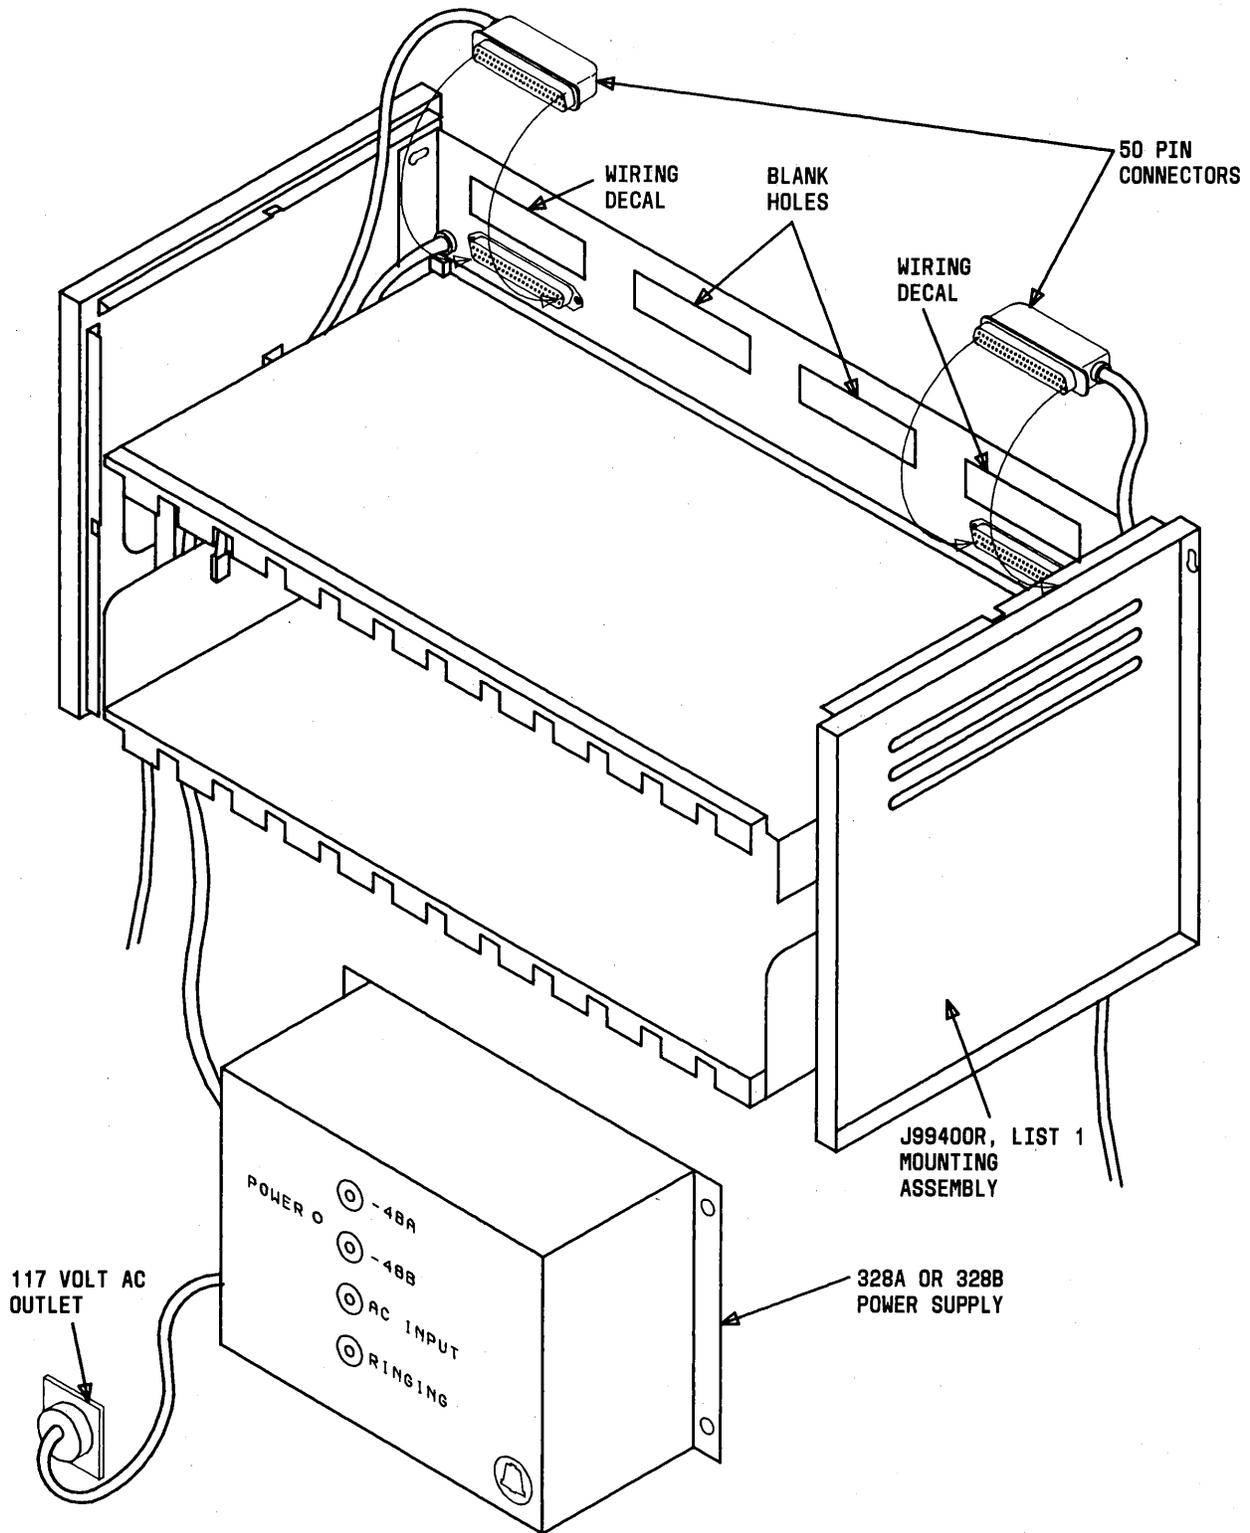

Fig. 1—J99400R Housing Assembly—Double-Module Arrangement for Six MFT Circuits
**2.01** The J99400R assembly consists of a double-module shelf arrangement which will accommodate up to six MFT circuits (12 plug-ins, alternating transmission units and signaling units). The J99400R assembly shown in Fig. 1 is available in combinations of the following list numbers:
**2.05** The 328A power supply which will accept commercial 117 volt ac input and will supply two -48 volt dc outputs (-48A and -48B). The 328A power supply has a 1.75 ampere circuit breaker on the 117 volt ac input and 1.75 ampere circuit breakers on each of the -48 volt dc outputs. The location of these circuit breakers and the POWER ON indicator is shown in Fig. 1. If a circuit breaker should trip, the center button will extend. The circuit breakers are reset by pushing this center button. If 20-Hz ringing is required, use of the 328B power supply/frequency generator or other external ringing source is recommended.
**2.07** The 328B power supply/frequency generator which will accept commercial 117 volt ac input and will supply two -48 volt dc outputs (-48A and -48B) and a 20-Hz ringing signal. The 328B power supply/frequency generator has a 1.75 ampere circuit breaker on the 117 volt ac input, a 1.75 ampere circuit breaker on each of the -48 volts dc outputs, and a 1.0 ampere circuit breaker on the 20-Hz ringing output. The location of these circuit breakers and the POWER ON indicator is shown in Fig. 1. If a circuit breaker should trip, the center button will extend. The circuit breakers are reset by pushing this center button.
**4.03** Cabling to the J99400R housing is routed up through the bottom of the housing to the 50-pin ribbon type connectors at the upper rear of the housing as shown in Fig. 1. Typically, cabling from the network interface is routed to the A-side connector (J13) and connected according to circuit function as indicated on the decal adjacent to the connector. The cabling to the central office is typically connected to the B-side connector (J14). Connections to the power and ringing supplies are made by plugging the power cable into the appropriate power supply. Additional installation instructions are given in Section 332-610-204.